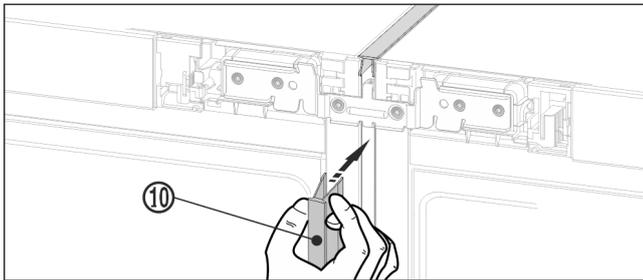

Fig. 22
- ▶ On the front, press the long cover strip Fig. 22 (10) into the vertical gap. Ensure that the strip rests on the connecting plate.